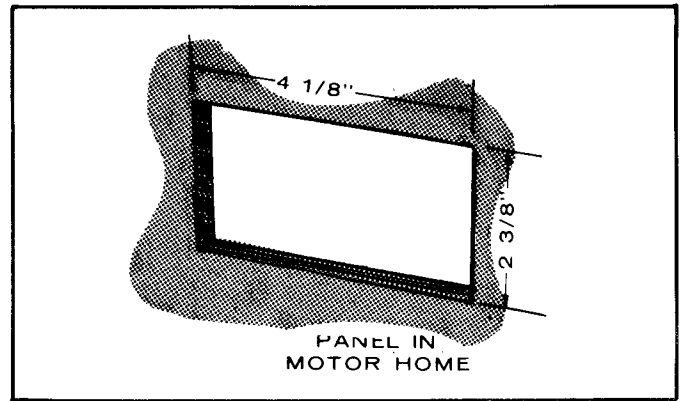

FIGURE 7. MOTOR HOME CUTOUT
Onan has two optional remote control stations designed specifically for the "Power Drawer" electric power plant. One includes a start-stop switch and indicator light (Figures 5 and 6). The other one includes a start-stop switch with indicator light, a running time meter, and a battery condition meter (Figures 7 and 8).
1. To measure wall cutout for the remote control switch, see Figure 7.